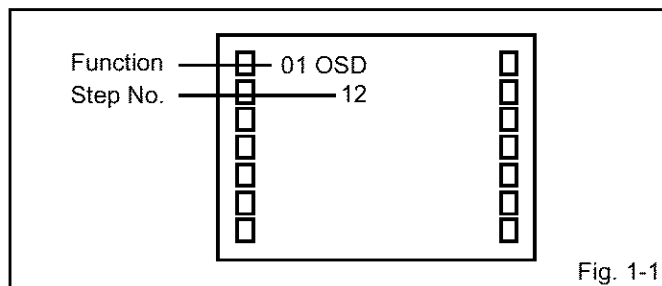

Fig. 1-1
2. Press the VOL. DOWN button on the set and the Channel button (9) on the remote control for more than 1 second to appear the adjustment mode on the screen as shown in Fig. 1-1.
5. Activate the adjustment mode display of Fig. 1-1 and press the channel button (03) on the remote control to select "CUT OFF".
4. Activate the adjustment mode display of **Fig. 1-1** and press the channel button **(16)** on the remote control to select "G DRIVE".
3. Activate the adjustment mode display of **Fig. 1-1** and press the channel button **(04)** on the remote control to select "HPOSI".
3. Activate the adjustment mode display of **Fig. 1-1** and press the channel button **(08)** on the remote control to select "VPOSI".
3. Activate the adjustment mode display of **Fig. 1-1** and press the channel button **(07)** on the remote control to select "VSIZE".
3. Activate the adjustment mode display of **Fig. 1-1** and press the channel button **(09)** on the remote control to select "VLIN".